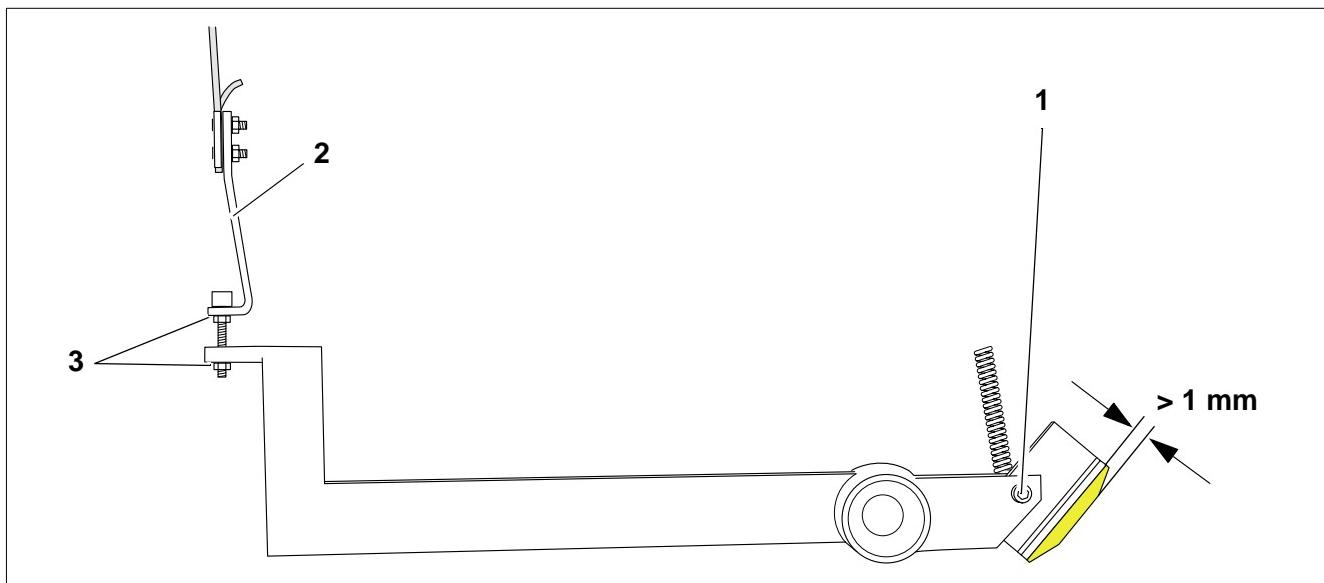

Fig. 22
- Check the brake linings. If the brake linings are thinner than 1 mm, they must be replaced (Fig. 22).
- Remove the old lining by loosening screw (1) (Fig. 22).
- After adjustments, make sure the brake wire link is oriented according to pos. 2 / Fig. 22. Lock its position using the nuts (pos. 3 / Fig. 22).